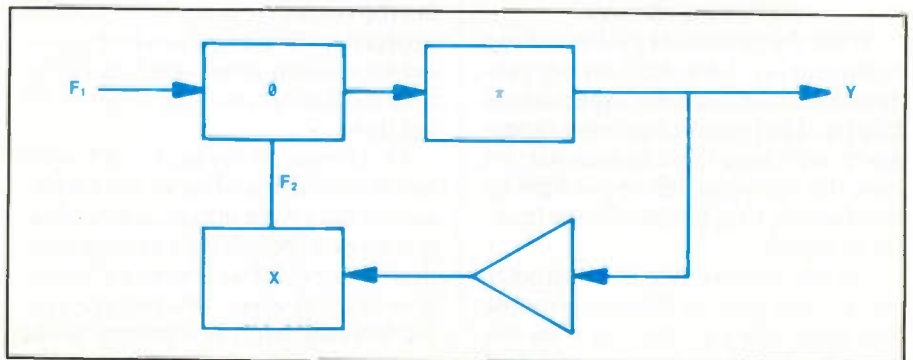

Figure 3.
Figure 3. The category of product that a customer brought in for service had considerable bearing on whether he or she was satisfied with the treatment and service received.
- In the phase locked loop of Figure 3, the block marked 'X' is a/an \_\_\_\_\_.
- For the PLL of Figure 3, when  $f_1 = f_2$  the output at 'Y' should be